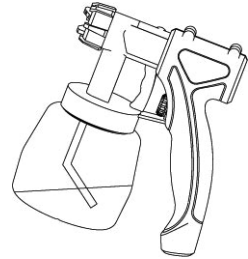

FIGURE 9.4
- Works on objects placed vertically: Adjust the delivery pipe backward (see Figure 9.4);